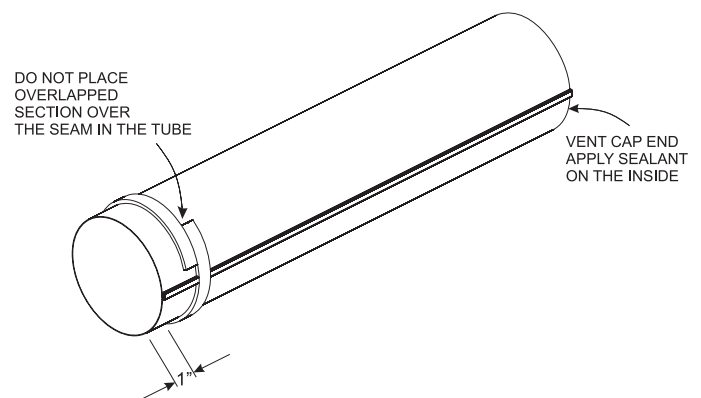

Figure 54
12. Seal the 4" (102 mm) diameter flue outlet tube. Follow instructions and diagram. **See Figure 54.**
If the air inlet and flue outlet tubes are to be connected directly to the unit (no rigid venting system is being used), then the gasket provided must be used to seal the 4" (102 mm) flue outlet tube. Peel the paper off the self-adhesive gasket and then wrap it around the end of the tube (if tube was cut, it is recommended to use cut end) as shown in **Figure 54**. Pull the gasket tight at all times while wrapping it around tube. The gasket ends should align, to form a complete seal. The overlapped section should NOT come in contact with the seam in the tube. Apply high temperature sealant to the opposite end of the tube (on the inside of the tube). The end with the gasket will attach to the back of the unit. Continue with Step 13.